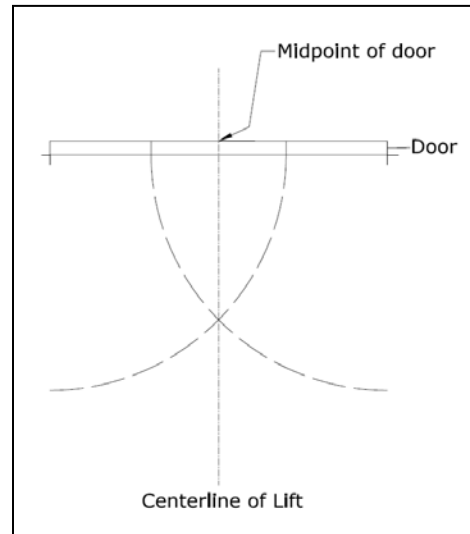

Figure 3. Chalk line
- 5.2.5 The centerline of the lift occurs between the intersection of the arcs and the midpoint of the door. Refer to Figure 3.